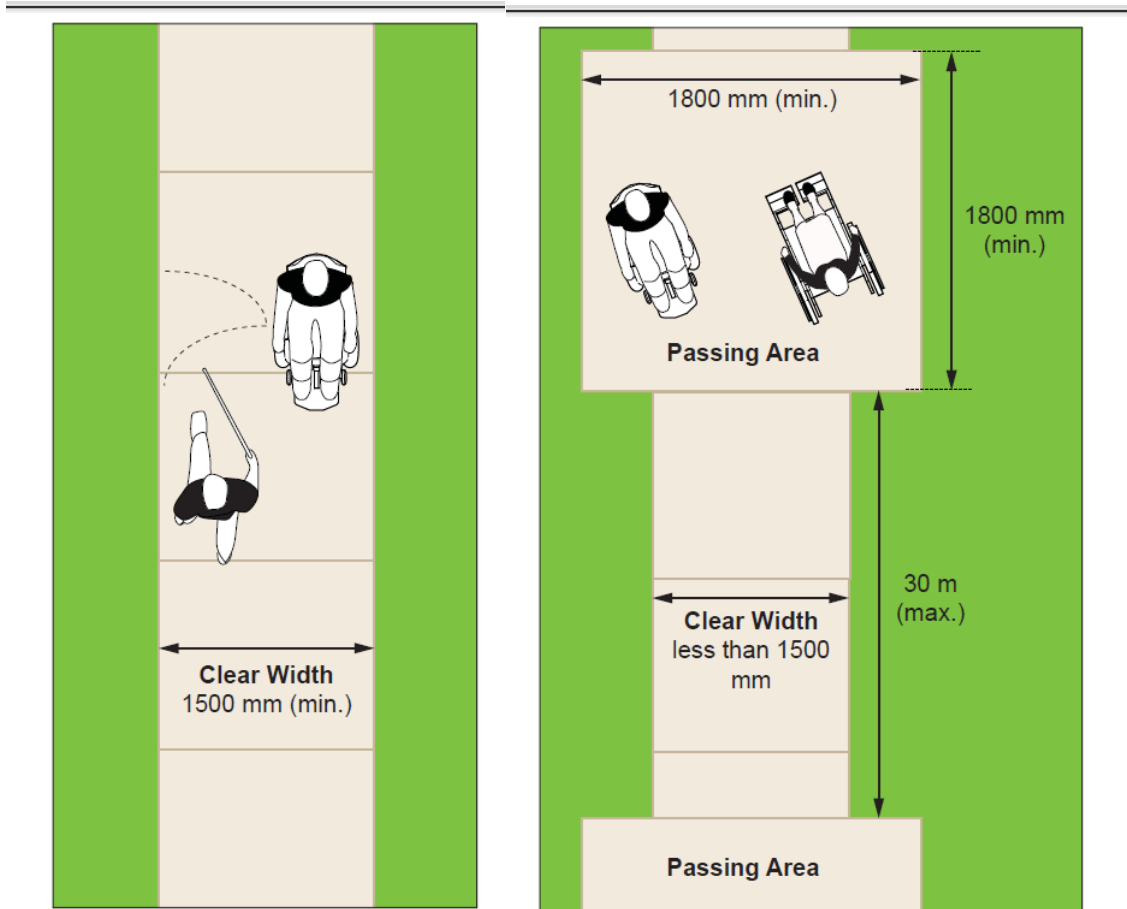

Figure 102: Clear width and passing area
- Minimum clear width: 1800 mm (See Figure 102)
- Located every 30 m, where feasible (See Figure 102)